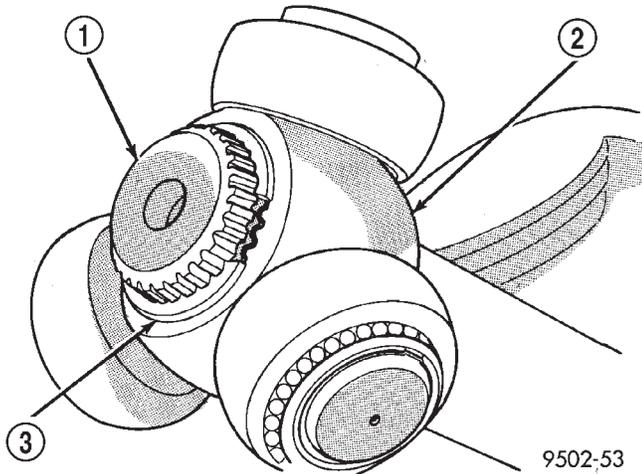

Fig. 25 Spider Assembly Retaining Snap Ring Installed
(3) Install the spider assembly to interconnecting shaft retaining snap ring into groove on end of interconnecting shaft (Fig. 25). Be sure the snap ring is fully seated into groove on interconnecting shaft.